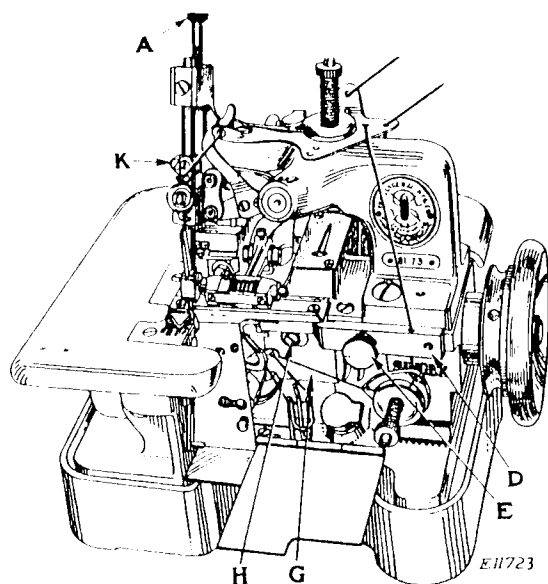
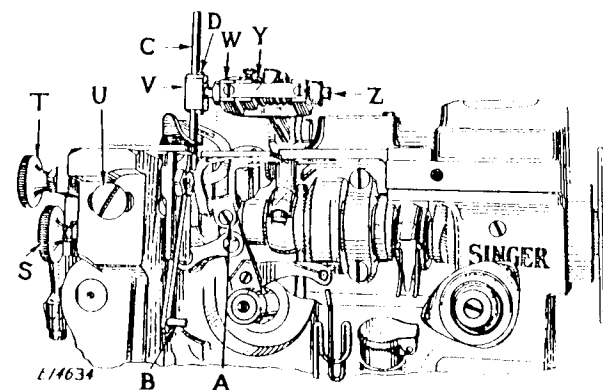

FIG. 13. ADJUSTMENTS ON THE MACHINE
FIG. 16. ADJUSTMENTS ON THE MACHINE
The pressure on the material is regulated by means of the thumb screw (A, Fig. 13). To increase the pressure, turn this thumb screw downward. To decrease the pressure, turn the thumb screw upwardly.
The length of stitch is regulated by means of the adjusting screw (H, Fig. 13) in the feed eccentric. **This screw faces directly outward.**
To change the length of stitch, turn the balance wheel until the lock screw in the feed eccentric appears in the hole of the cover (G, Fig. 13). **This screw faces slightly downward.** Loosen the lock screw. Then turn the balance wheel until the adjusting screw (H) is visible through the hole in the cover (G). Turn the adjusting screw (H) over to the right for a long stitch. Turn this screw over to the left for a short stitch. Then turn the balance wheel over until the lock screw appears and securely tighten this screw.
Now turn the balance wheel over from you until the needle bar has risen $\frac{3}{32}$ inch from its lowest position. The point of the left hand looper, on its loop taking stroke, should then be at the center of the needle, and the eye of the needle should be about $\frac{1}{16}$ inch below the looper point. If the needle bar is not at the correct height, loosen the pinch screw (K, Fig. 13) and move the needle bar upward or downward as required, then securely tighten the pinch screw (K).
The left hand looper should be set in the looper carrier by means of the screw (A, Fig. 16), so that the point of the looper on its loop-taking stroke passes as close as possible to the needle without striking it. The point of the right hand looper or spreader should pass at the recess back of the left hand looper eye as close as possible without touching it.
The lower knife (B, Fig. 16) should always be fastened in position when removing or replacing the upper knife. The lower knife is adjustable to the right or left and its position governs the position of the upper one, also the width of bight on the goods.
To Remove the Lower Knife (B, Fig. 16), loosen the thumb screw (T, Fig. 16) and draw the knife downwardly.
To Replace the Lower Knife, have the presser foot and feed down, press the upper knife holder (V, Fig. 16) toward the balance wheel, and push the lower knife upwardly so as to touch the presser foot without lifting it, then tighten the thumb screw (T, Fig. 16).
To Adjust the Trimmer Sidewise, loosen the thumb screw (E, Fig. 13) and move the extension bracket (D, Fig. 13) to the right or away from the upper knife, loosen the screw (U, Fig. 16) and turn the thumb screw (S, Fig. 16) inwardly or outwardly until the trimmer is in the desired position, then securely tighten the screw (U). Move the extension bracket (D, Fig. 13) back toward the upper knife, leaving just enough clearance between the upper knife and the bracket so as to allow free movement of the upper knife, then tighten the thumb screw (E, Fig. 13).
To Remove the Upper Knife (C, Fig. 16), loosen the screw (Z, Fig. 16) at the end of the knife holder, press the knife holder (V, Fig. 16) toward the balance wheel and remove the knife.
When replacing the Upper Knife, have the knife holder in the lowest position and pressed toward the balance wheel, insert the knife and set it so that its cutting edge is just below the cutting edge of the lower knife, then tighten the clamping screw (Z, Fig. 16).
If the desired trimming margin cannot be secured by these adjustments, it may be obtained by removing the gib (D, Fig. 16) and replacing it at the **left** of the upper knife. The lower knife should then be adjusted accordingly.
When the knives are in contact, the space between the guide (Y, Fig. 16) and the knife lever (W, Fig. 16) should be about $\frac{1}{8}$ inch.